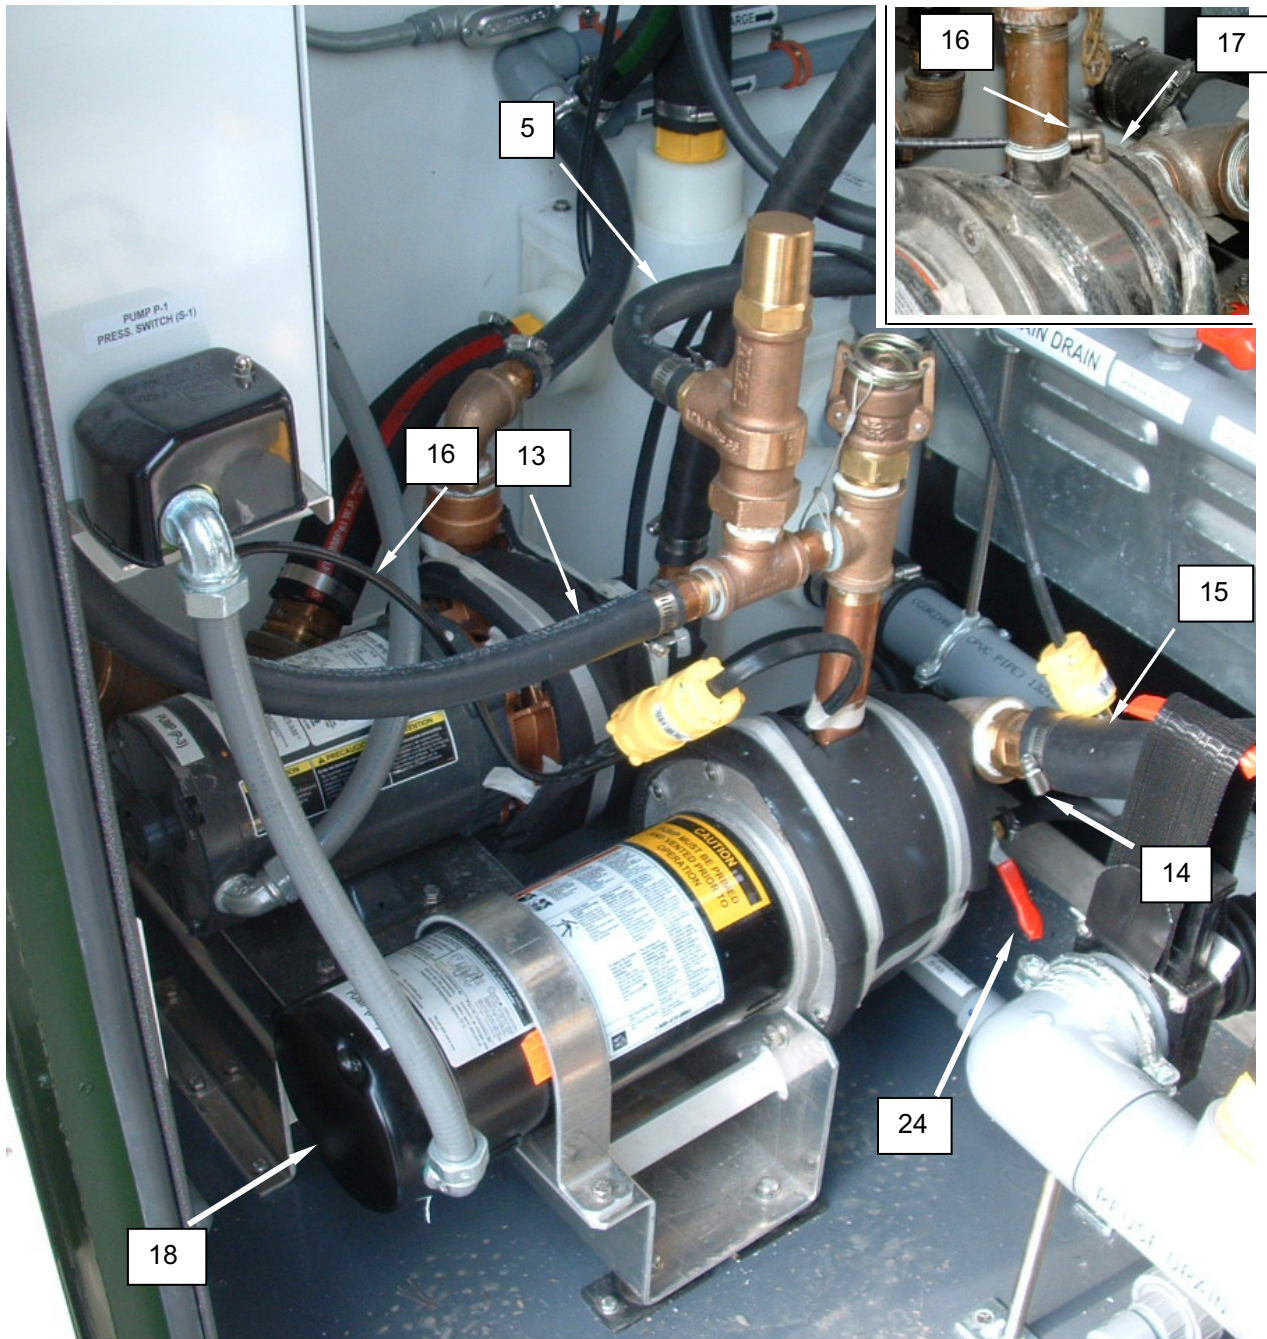

Figure 8. Replace the Pump Impellor.
2. Open P-1 pump drain valve (**Figure 8, Item 24**) and allow pump to drain
4. Loosen hose clamp retaining discharge hose (**Figure 8, Item 13**), and remove hose.
5. Loosen hose clamp retaining pressure relief valve hose (**Figure 8, Item 5**), and remove hose.
6. Loosen hose clamp retaining drain hose (**Figure 8, Item 14**), and remove hose.
7. Loosen hose clamp retaining pump suction hose (**Figure 8, Item 15**), and remove hose.
8. Loosen compression nut retaining pressure switch tubing (**Figure 8, Item 16**) to pump casing (**Figure 8, Item 17**), and remove tubing.
9. Remove the screws retaining the pump end cover (**Figure 8, Item 18**), and remove the pump end cover.